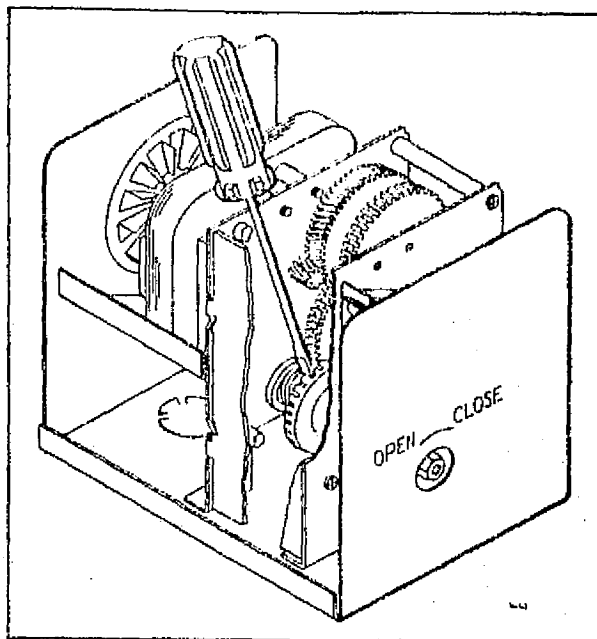

FIG. 10—USING SCREWDRIVER TO ADJUST AUXILIARY SWITCH CAM.
3. Insert a screwdriver in a slot in the switch cam (white plastic) located near the center of the motor. Refer to the cutaway view, Fig. 10. Each slot in the cam equals approximately 20 degrees of motor rotation.